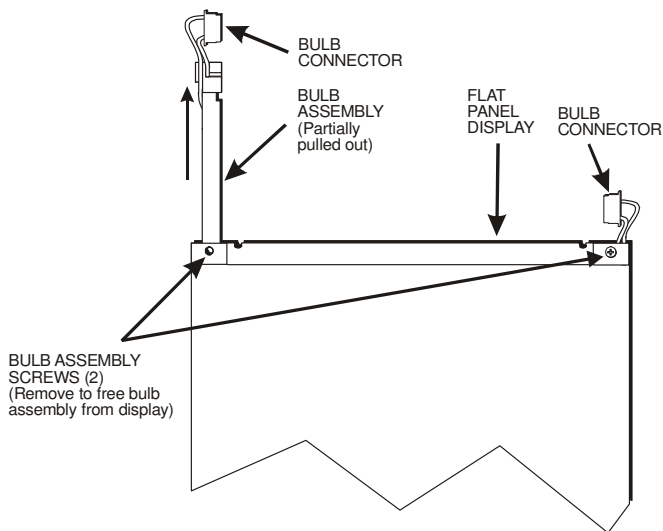

Figure D- 3. Model #LQ150X1DG16
12. Referring to Figure D-3, unscrew the setscrews that secure the bulb assemblies and slide the bulb assemblies out of the display.